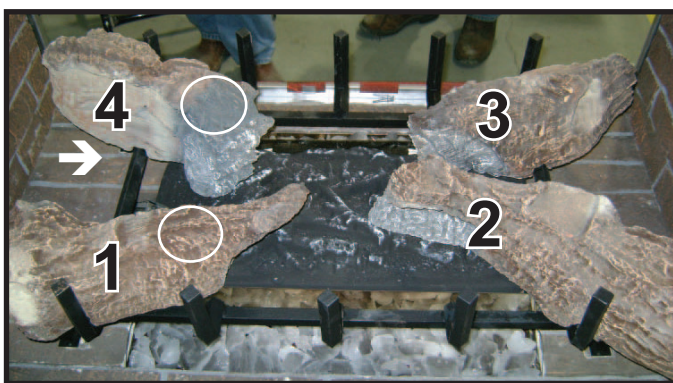
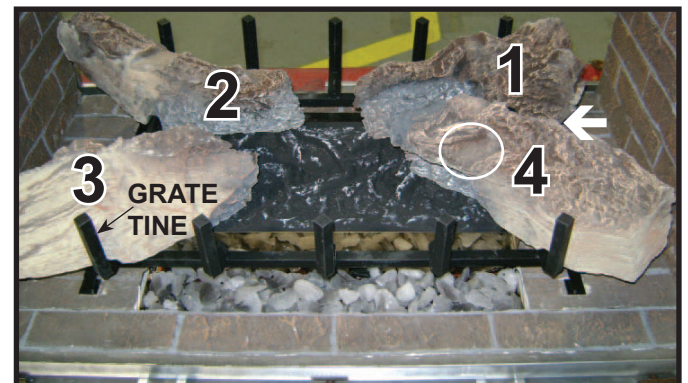
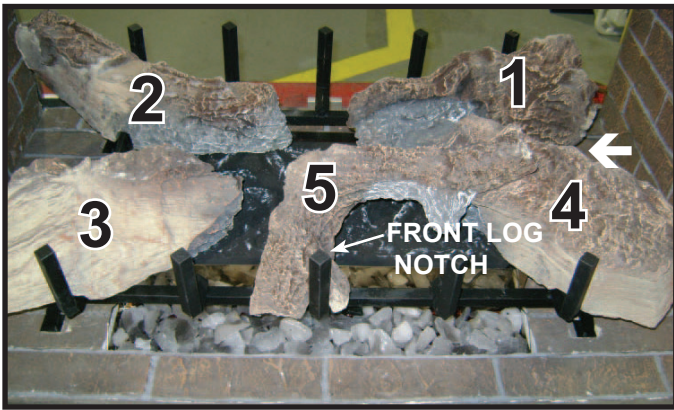
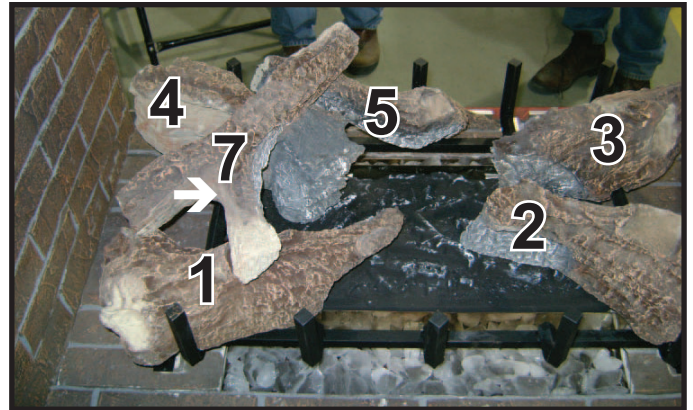

Figure 10.
Figure 11. Reverse View
Figure 12.
Figure 13.
**LOG NUMBER 4 (SRV2146-704):** Place Log #4 so that the groove on bottom of log rests on the grate bar as show in Figure 10. Push log so that it rests against the grate tine shown in Figure 11. The “burnt” end of the log rests on the burner. The log must **NOT** block any burner ports.
**LOG NUMBER 5 (SRV2146-705):** Place Log #5 from side of unit where pilot is located on your right side. Place log so the front log notch engages the center grate tine as shown in Figure 12 and the right side of log rests on the notch in Log #4. See Figure 11. The notch is visible in Figure 11. The log must **NOT** block or sit directly over any burner ports.
**LOG NUMBER 7 (SRV2146-707):** Log #7 rests on the notch on top of log #1 and the notch on top of log #4. See Figure 13. The points of contact on Log #1 and Log #4 where Log #7 rests are indicated by the circles in Figure 10.